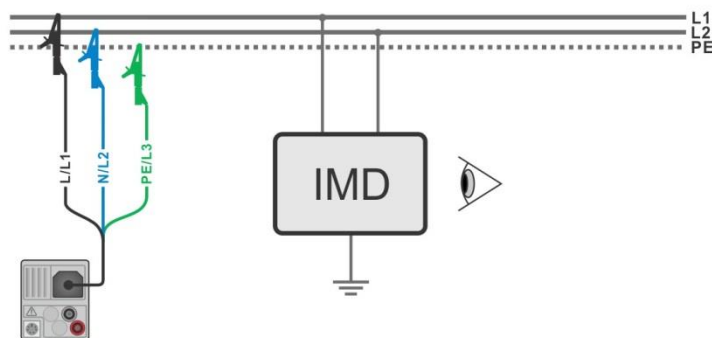

Figure 7.76: Connection with 3-wire test lead
- › Connect test leads to the object under test, see **Figure 7.76**.